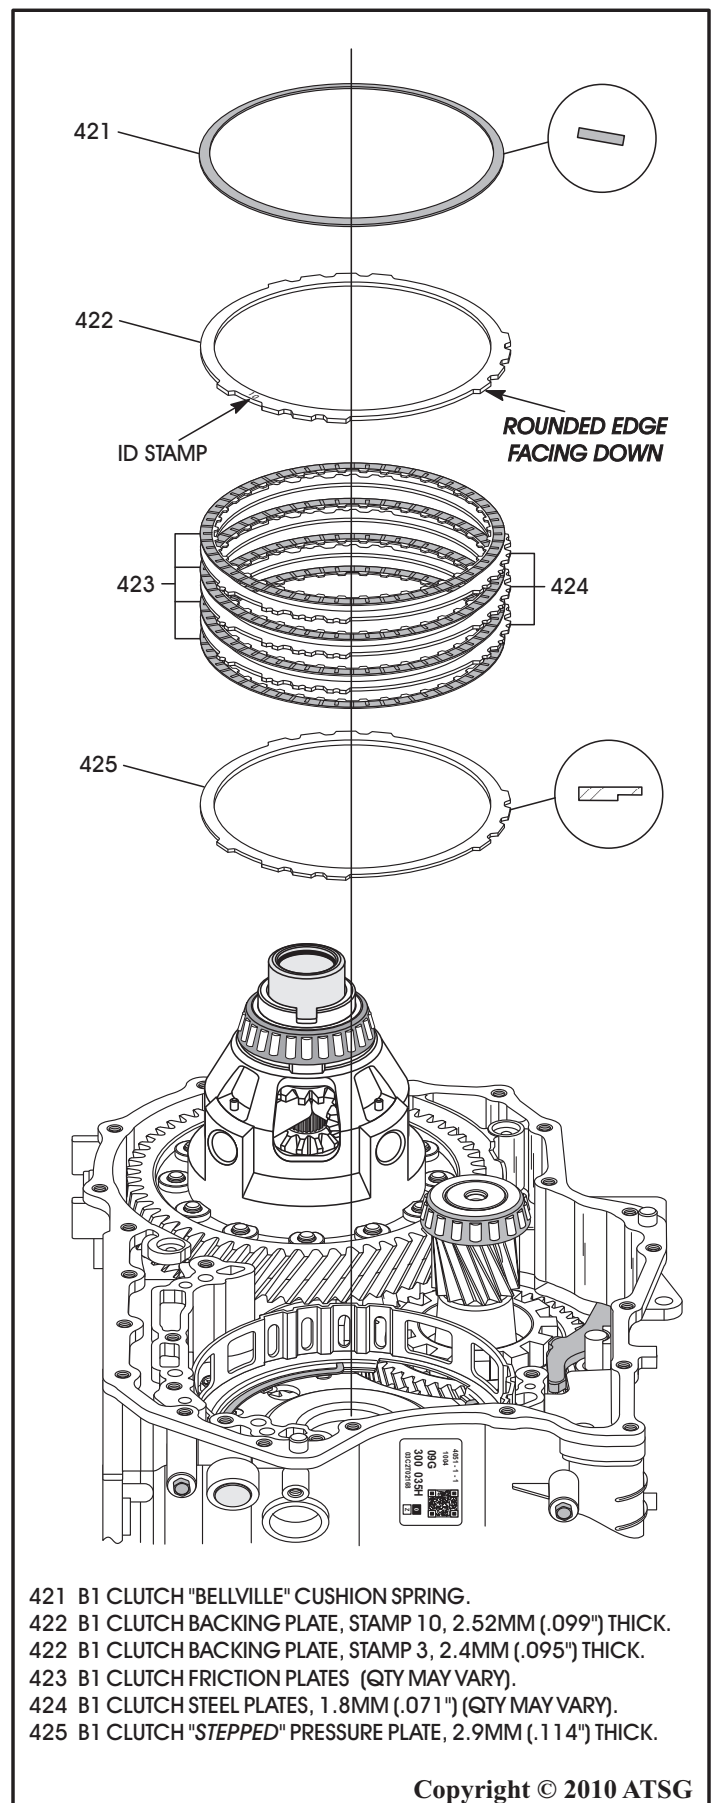

Figure 178
28. Install the B1 clutch "stepped" pressure plate, as shown in Figure 178, with "step" facing down.
29. Install B1 clutch pack beginning with a friction plate onto the pressure plate and alternating with a steel plate, as shown in Figure 178, until you have installed the proper quantity, as the quantity may vary.
30. Install the B1 clutch backing plate on top of the last friction, as shown in Figure 178, with the rounded edge facing the friction.
31. Install the B1 clutch "bellville" cushion plate in the direction shown in Figure 178.